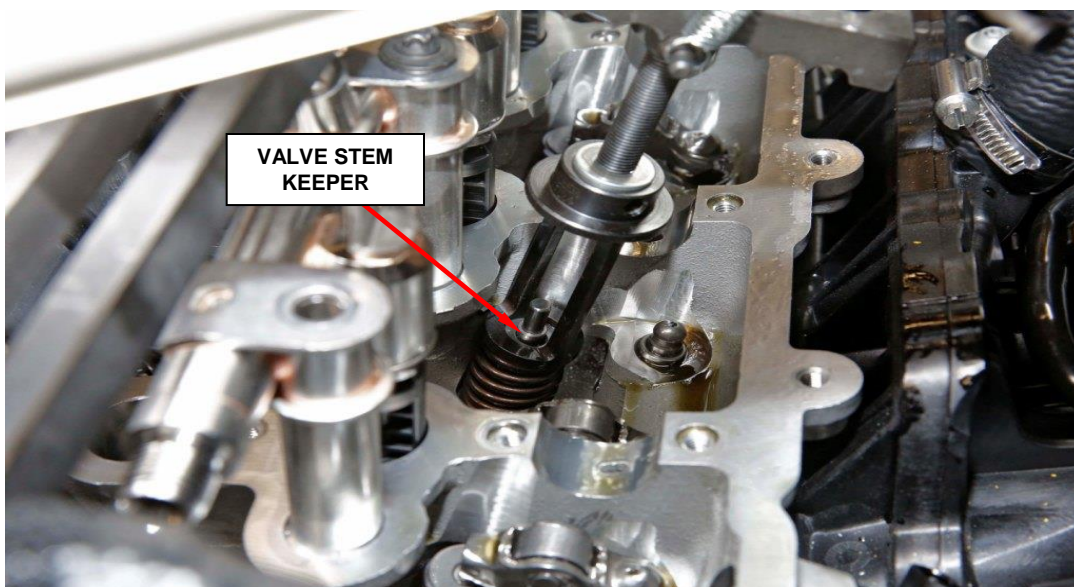

Figure 28 – Valve Spring Compressor
68. Using the Valve Spring Adapter **10224** compress the valve spring enough to visually see the valve stem grooves and use a magnet to hold and install the keeper assuring it is aligned with the valve stem grooves (Figure 28).